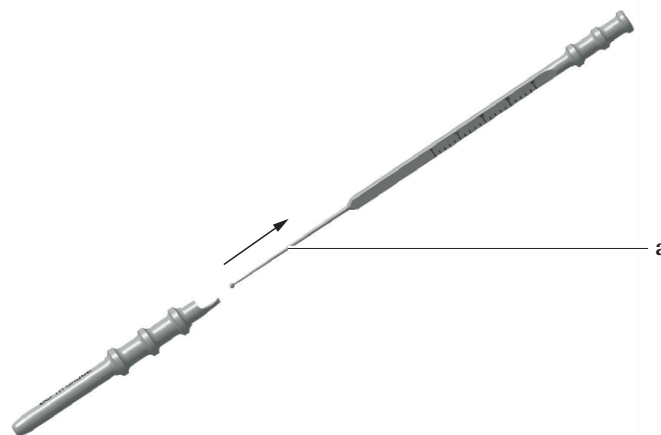

Fig. 58
- ▶ Remove the inner shaft **a**, see Fig. 58.